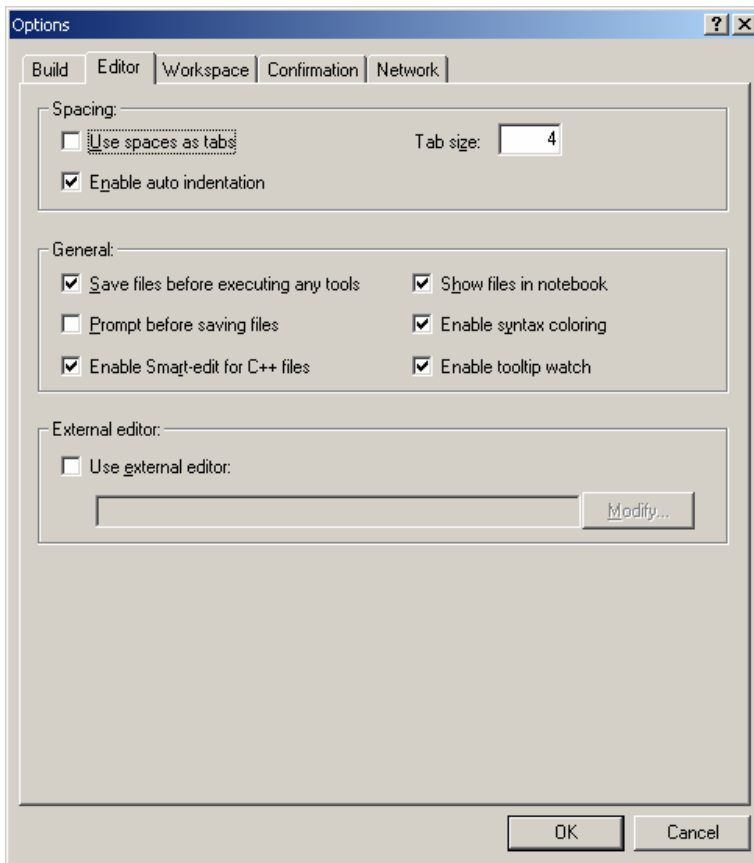

Figure 6.12: Options Dialog Editor Tab
1. Select **[Tools->Options...]**. The “Options” dialog will be displayed. Select the “Editor” tab (figure 6.12).
The High-performance Embedded Workshop allows you to customize file save on the “Editor” tab of the “Options” dialog (figure 6.12). To open the tab, select [**Tools->Options...**] and click the “Editor” tab.